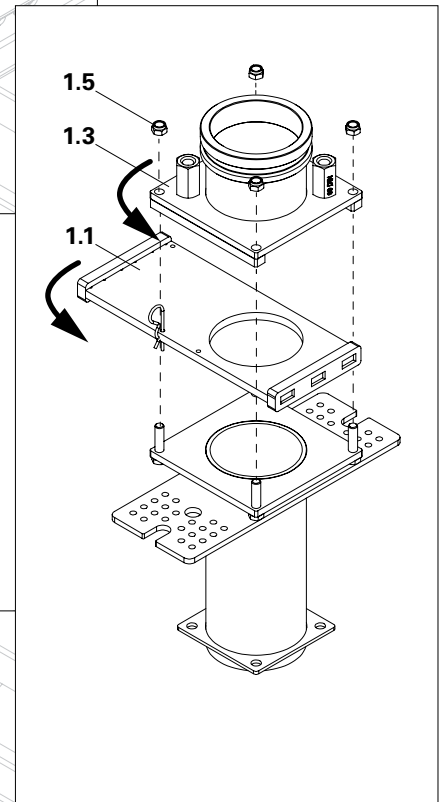

Fig. B.03
2. Lift the pipe connection (1.3) and gate valve (1.1), turn 90° and re-attach. (Fig. B.03)